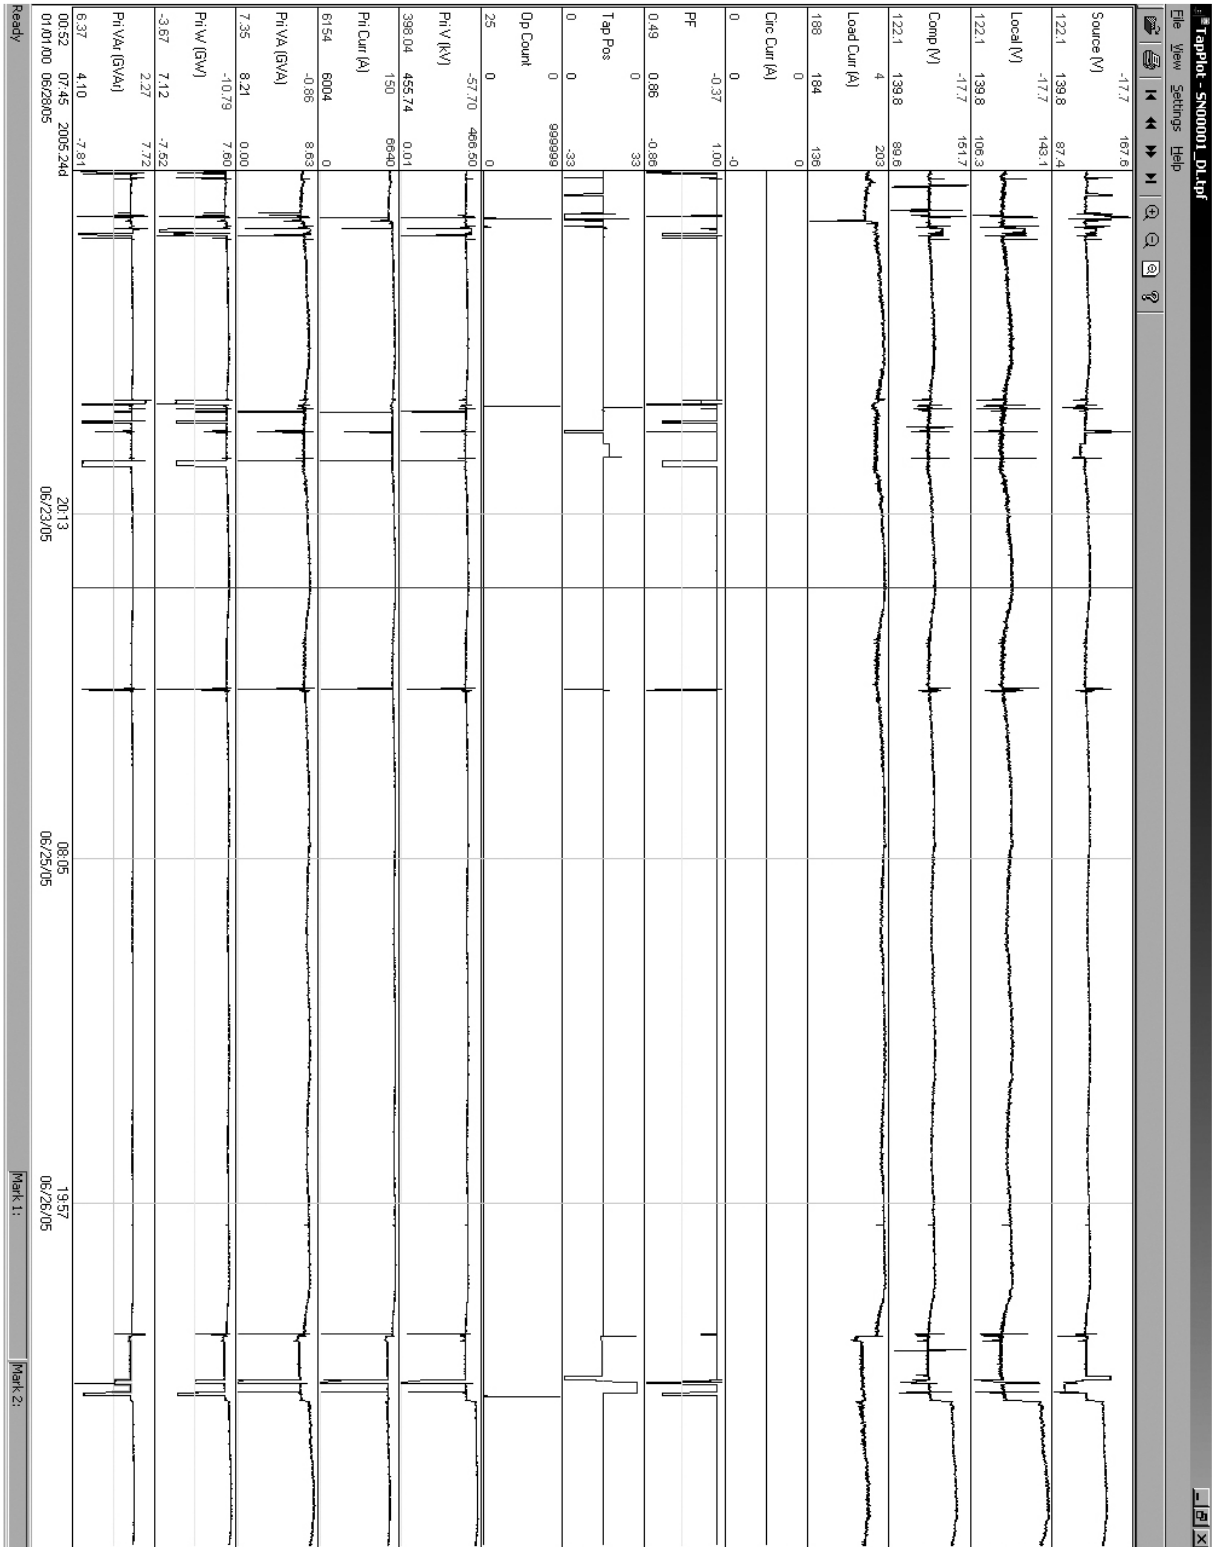

Figure 9-37 TapPlot Window and Tap Data Example
1. Select the TapPlot program-item icon from the Becoware group in the Program Manager, or select TapPlot from the program list using the **Start** Menu. The TapPlot Window and Toolbar is displayed (Figure 9-37).
3. Open the file. TapPlot should display the saved data, as shown in Figure 9-37.
When TapPlot is started, a menu and tool bar are displayed (see Figure 9-37). This section describes each TapPlot menu selection and explains each TapPlot command in the same order that they are displayed in the software program. Figure 9-39 presents the TapPlot Menu and Submenu Callouts.